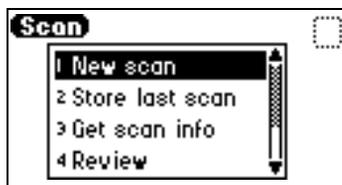

Figure 3-29 Scan Choice List
1. Press **SCAN** (**Shift Chart Mark**). A Scan choice list is displayed (Figure 3-29).